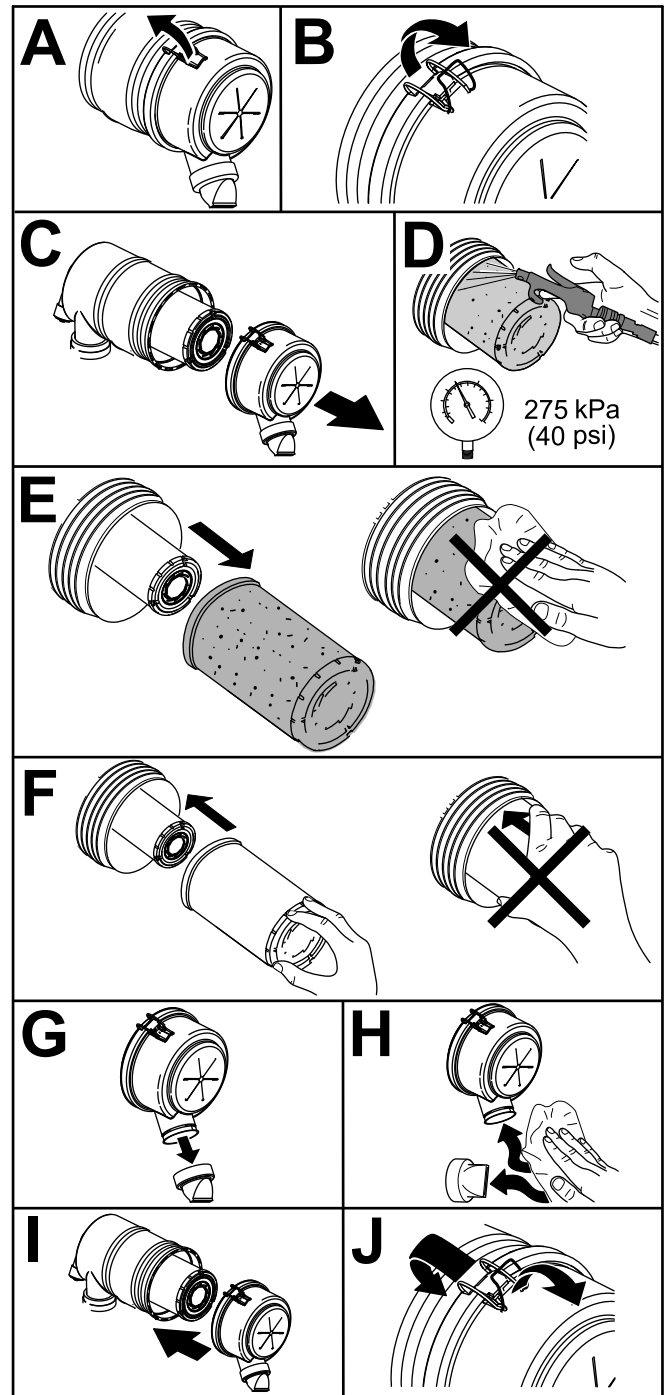

Figure 54
1. Replace the air filter element (Figure 54).